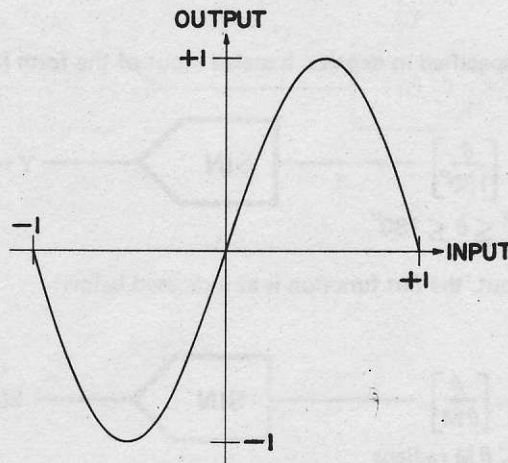

Figure 4.24 Sine Generator: Input-Output Characteristic
As shown in Figure 4.24.
1. The Sine Generator has a preset sinusoidal function that covers one complete cycle. See Figure 4.24. The user is required to provide an appropriately scaled input.